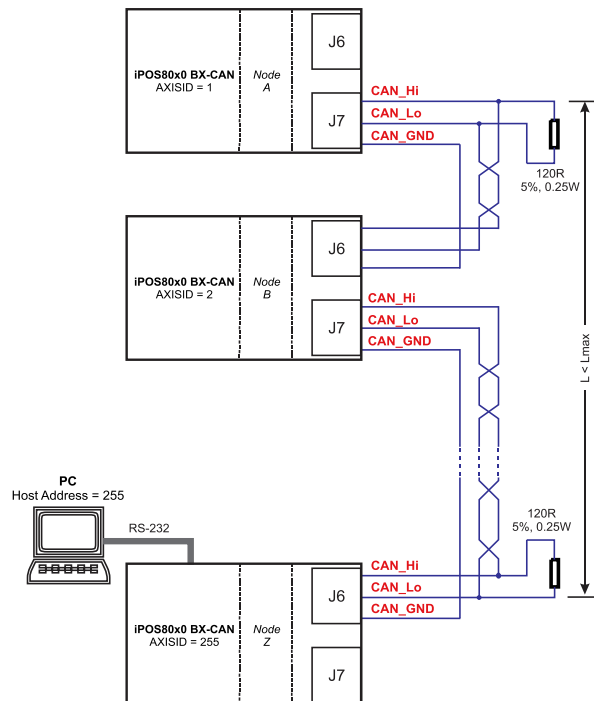

Figure 3.25. Multiple-Axis CAN network
1. The CAN network requires a 120-Ohm terminator. This is not included on the board. **Figure 3.25** shows how to connect it on your network